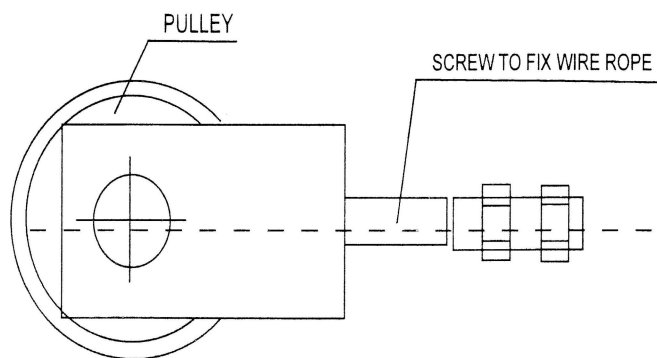

Fig. 2b
- 3.3.1 Wind the wire rope on the “Drum” 3 turns as show Fig.2b. Tightening and fix it temporarily.